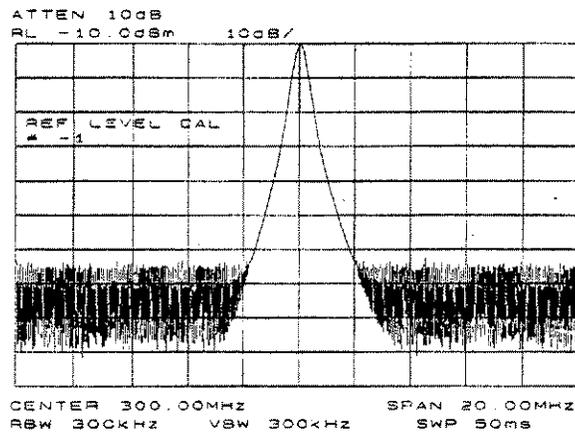

Figure 1-8. Signal Peak Calibrated to the Reference Level
4. Using the front-panel knob, adjust the peak of the signal to the reference level as shown in Figure 1-8. Note the number that appears in the active function block. This number, which ranges from -33 to 33, is a relative number indicating how much amplitude correction was required to calibrate the spectrum analyzer. The number is usually around 0.